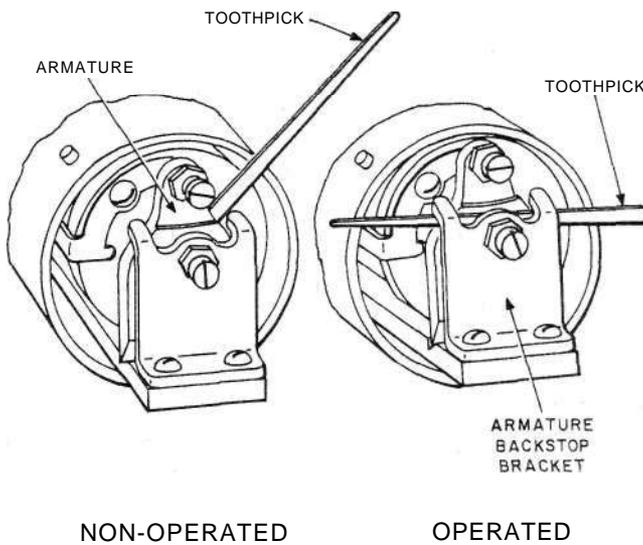

Fig. 17—Blocking 118-Type Relays
3.14 **118-Type Relays:** Fig. 17-Block relays nonoperated by inserting a toothpick between the armature and the core. Block relays operated by inserting a toothpick between the armature backstop bracket and the armature.